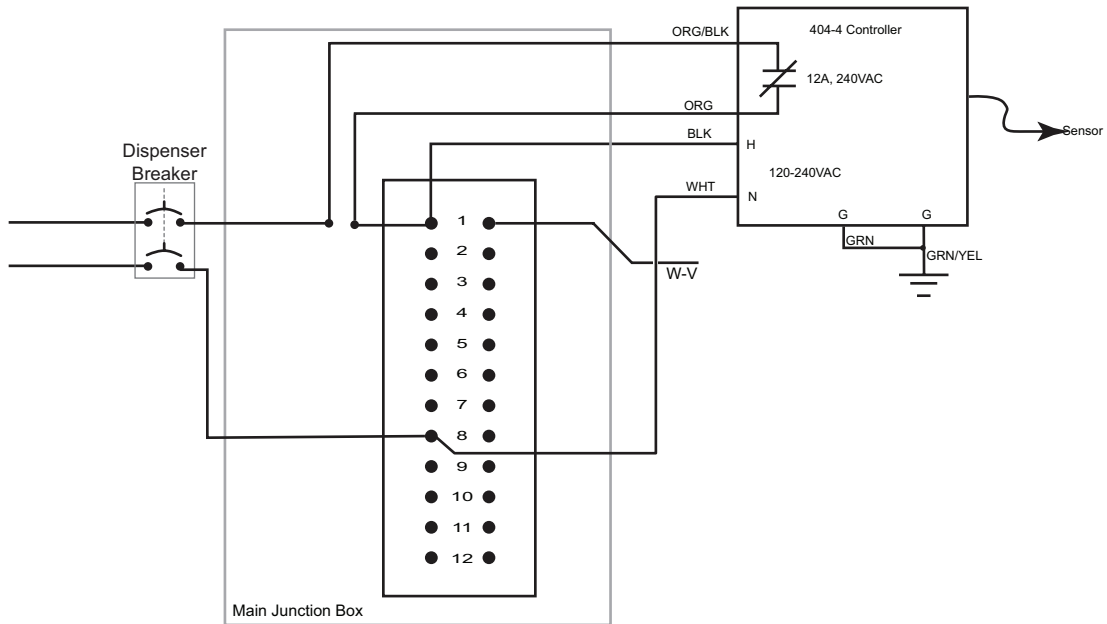

Figure 7: 404-4 Wired to a 120V Dresser-Wayne Vista 3 Series Dispenser
5. Wire the 404-4 power wiring per the schematic that matches your dispenser listed in Figures 7 - 14. Contact your dispenser manufacturer for a wiring diagram if you are unsure of the dispenser input power wiring.